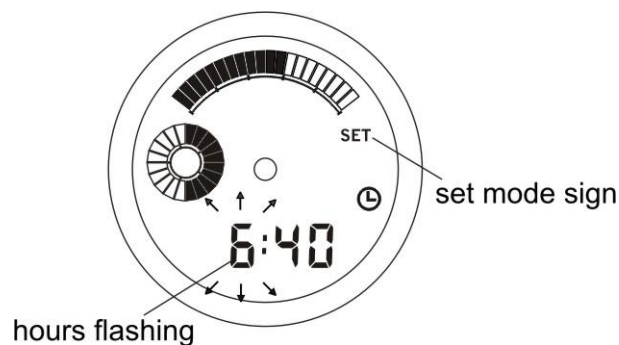

Fig. 3.8
3.2.8.2 To set the alarm clock ON time and current time enter the time indication as described in clause 3.2.2. Then the long pressing of button 2 (SELECT) switches on the *setting the alarm clock ON time*. After this the display will show the flashing hours of the alarm clock setting and the set mode sign - **SET** (Fig. 3.8).